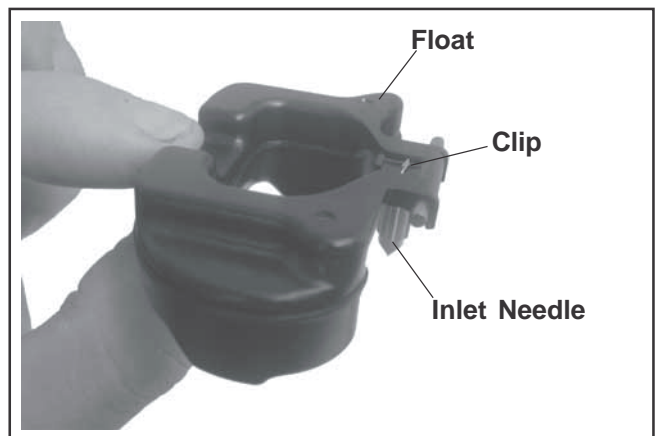

Figure 5-25. Float and Inlet Needle Details.
12. Attach the inlet needle to the plastic tang of the float with the wire clip. The formed 90° lip should point up, with the needle valve hanging down. See Figure 5-25.